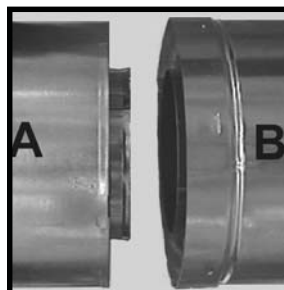
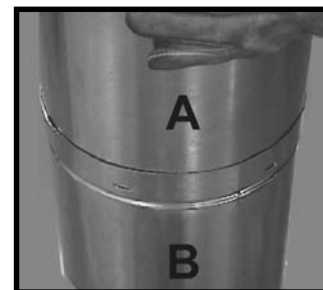

Figure 44
Figure 45
- 2) Insert the outer flue of section "A" into the outer flue of section "B". See Figure 44. Once both inner and outer flues are started, press section "A" into section "B" firmly until all lances have snapped into place. Tug slightly on section "A" to confirm it has completely locked into place. See Figure 45.